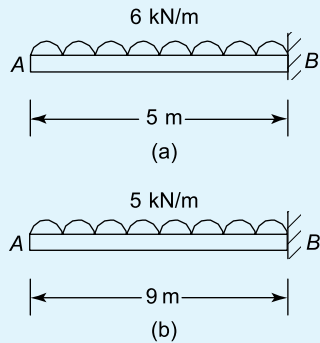

Figure 7.44 Cantilevers
- Figure 7.44(a)
- Figure 7.44(b)